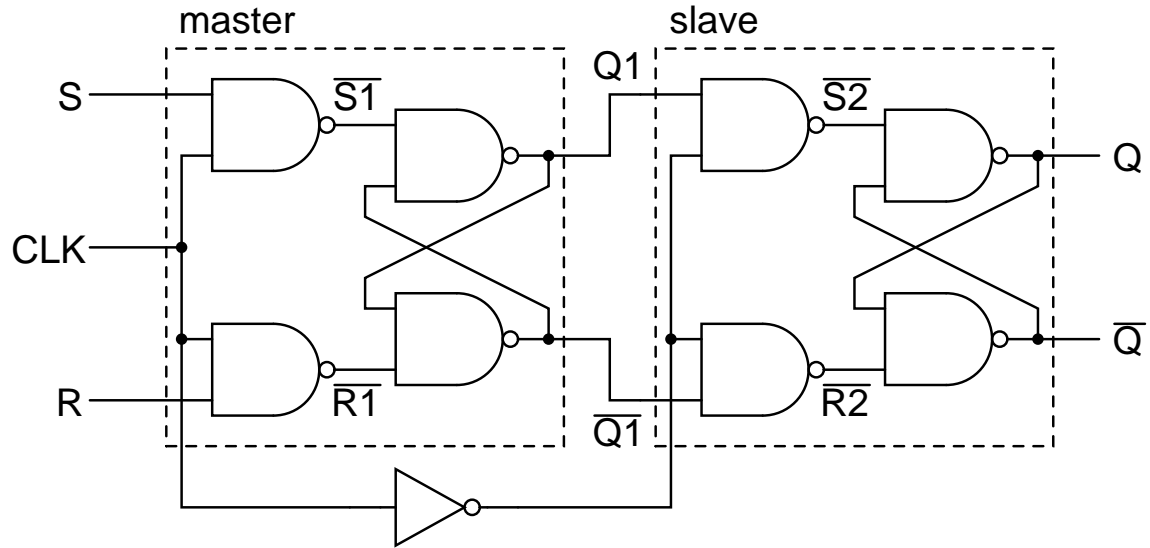

Figure 2.3: Master-slave configuration for RS flip-flop.
**Exp (LTSPICE 9.1). Master-slave RS and JK flip-flops.** Figure 2.3 shows an implementation of a negative-edge triggered RS flip-flop. It employs a master-slave configuration, in which two identical clocked RS latches are used. An individual clocked latch performs as a regular RS latch when the clock input CLK is logic 1. If CLK level is logic 0, S and R inputs have no effect on the latch, and it retains its old value.